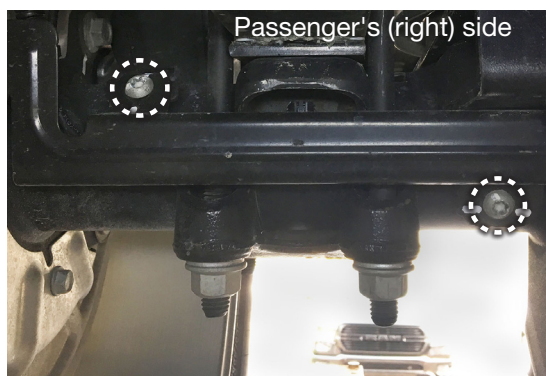

Fig. 8
5. Using a T40-sized Torx bit, remove the Torx head screws on both wire harness guards located on the front side of the axle. Pry out the harness retainers and remove the guards on both sides. Set the screws and the guards aside to be re-installed later (Fig 8).